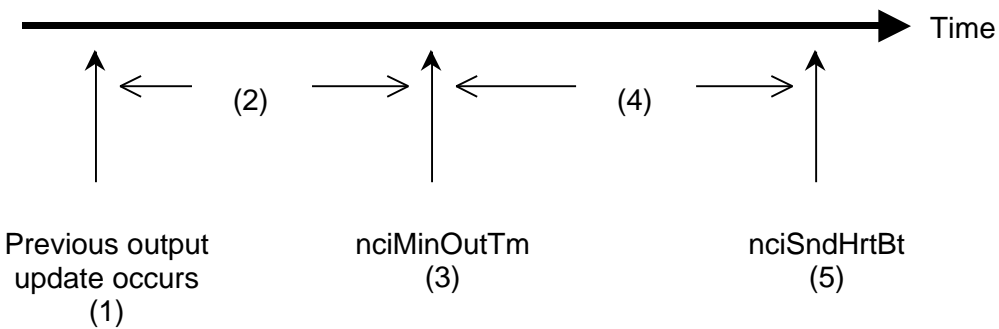

Figure 8: Behavior of `nciMinOutTm` and `nciSndHrtBt`
Figure 8 details the interaction between `nciMinOutTm` and `nciSndHrtBt`:
1. Previous output variable update occurred at point (1).
2. If an output variable first changes significantly in region (2), all output variables will be updated at point (3), at which time both the min out timer and send heartbeat timer will be reset.
3. If an output variable first changes significantly in region (4), all output variables will be immediately updated, and both the min out timer and send heartbeat timer will be reset.
4. If no output variables change significantly by the time point (5) is reached, all output variables will automatically be updated at point (5), and both the min out timer and send heartbeat timer will be reset.
5. If `nciMinOutTm` = 0, it has no effect in Figure 8, and output variables will be updated immediately whenever they change significantly or the send heartbeat timer expires.
6. If `nciSndHrtBt` = 0, region (4) in Figure 8 will continue indefinitely, and output variables will not be updated until at least one changes significantly.